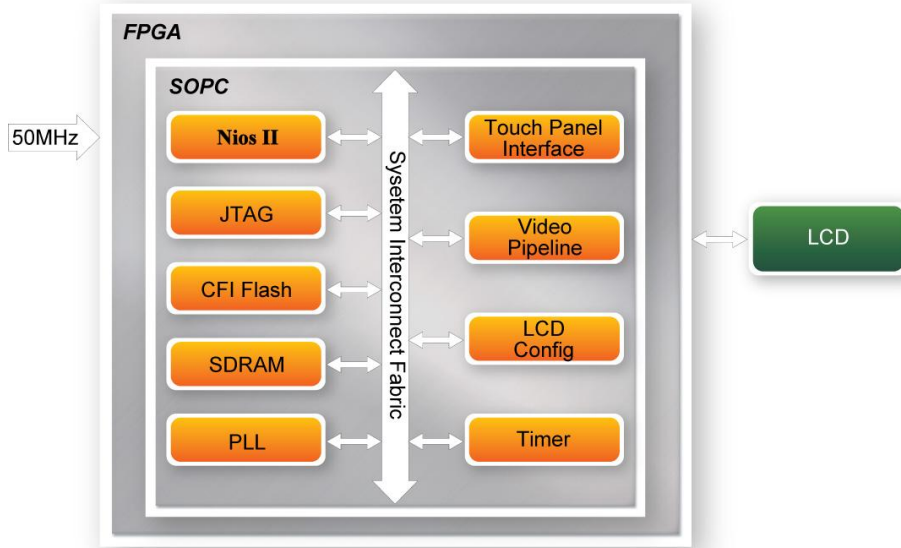

Figure 4-2 Block diagram of the tPad Starter demonstration
**Figure 4-2** shows the hardware system block diagram of this demonstration. The system is clocked by an external 50MHz Oscillator. Through the internal PLL module, the generated 100MHz clock is used for Nios II processor and other components, and there also a 40MHz pixel clock for the video pipeline and 10MHz for low-speed peripherals. The Nios II CPU runs the application software and controls all the peripherals. A scatter-gather DMA is used to transfer pixel data from the video buffer to the video pipeline.